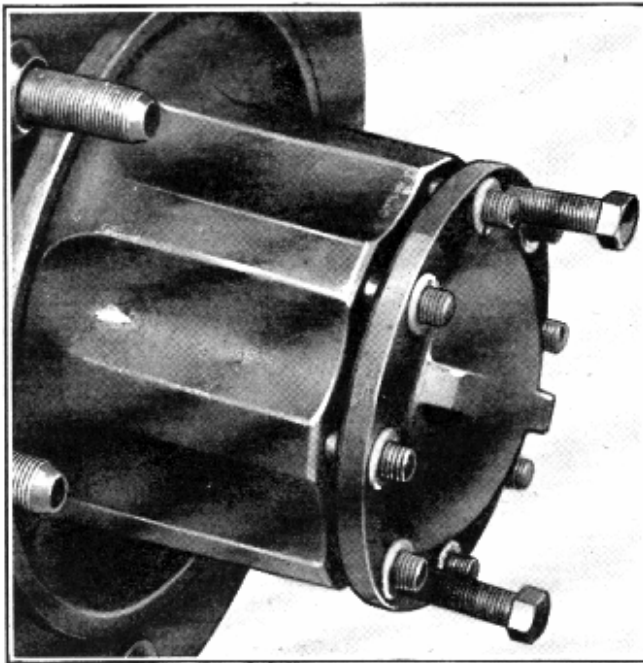

Fig. 24—Removing Rear Axle Shaft
3. Install two $7-7/16$ " x 14 cap screws in the threaded holes provided in the axle shaft flange. Turning these cap screws alternately, the axle shaft may easily be removed. See Fig. 24. Remove the axle shaft and flange gasket.